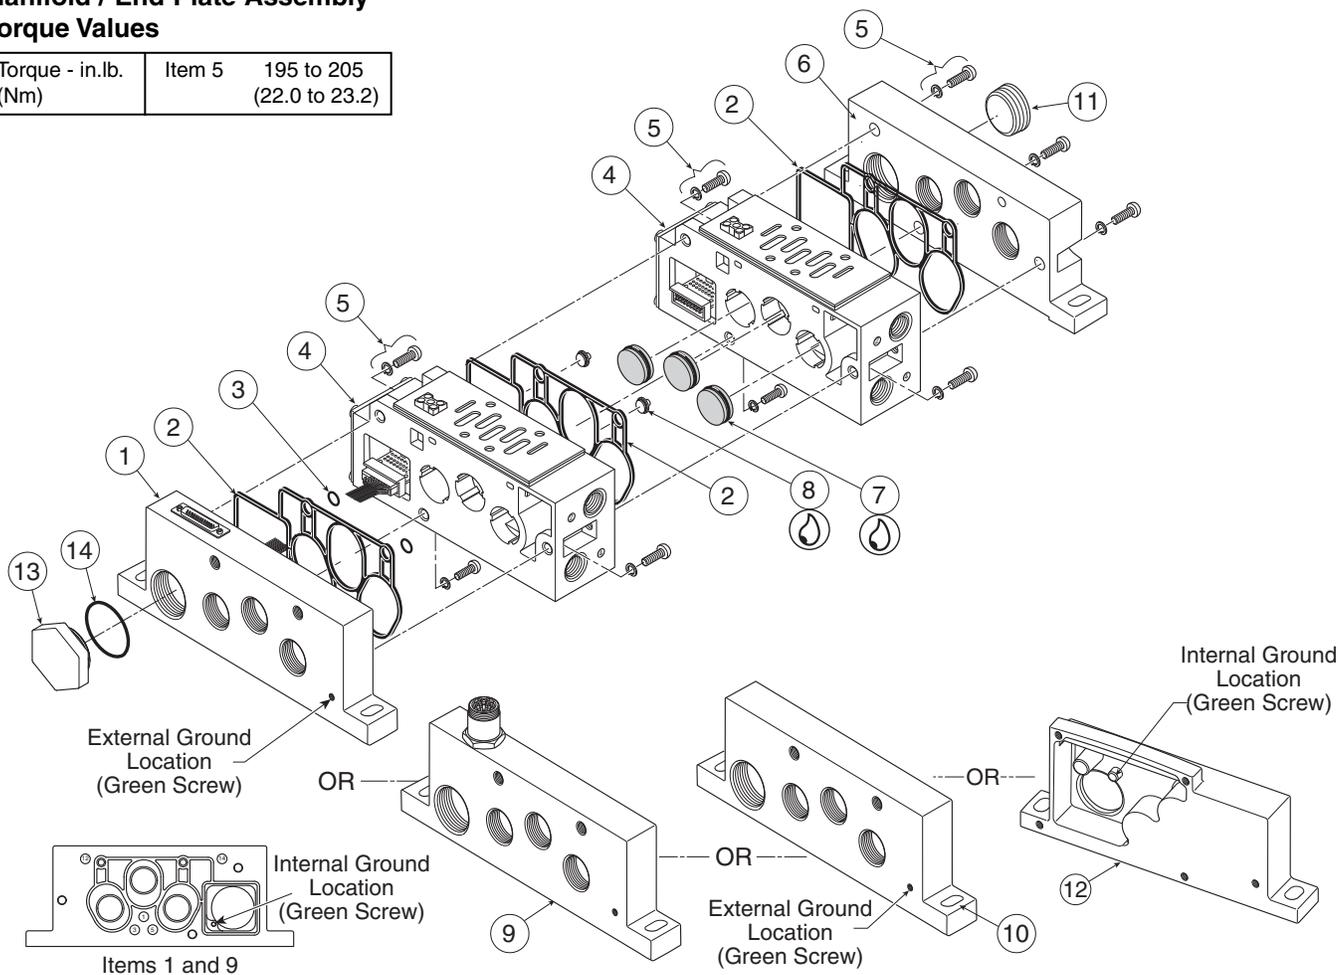

Figure 5 (H2 Manifold Assembly Shown)
**For H2 & H3 Valves (See Figure 5)**